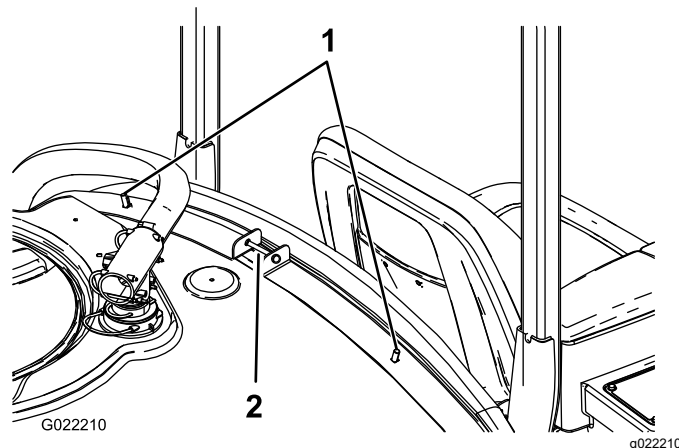

Figure 1
2. Install 2 carriage bolts to the upper inboard holes on the front tank straps (Figure 1).